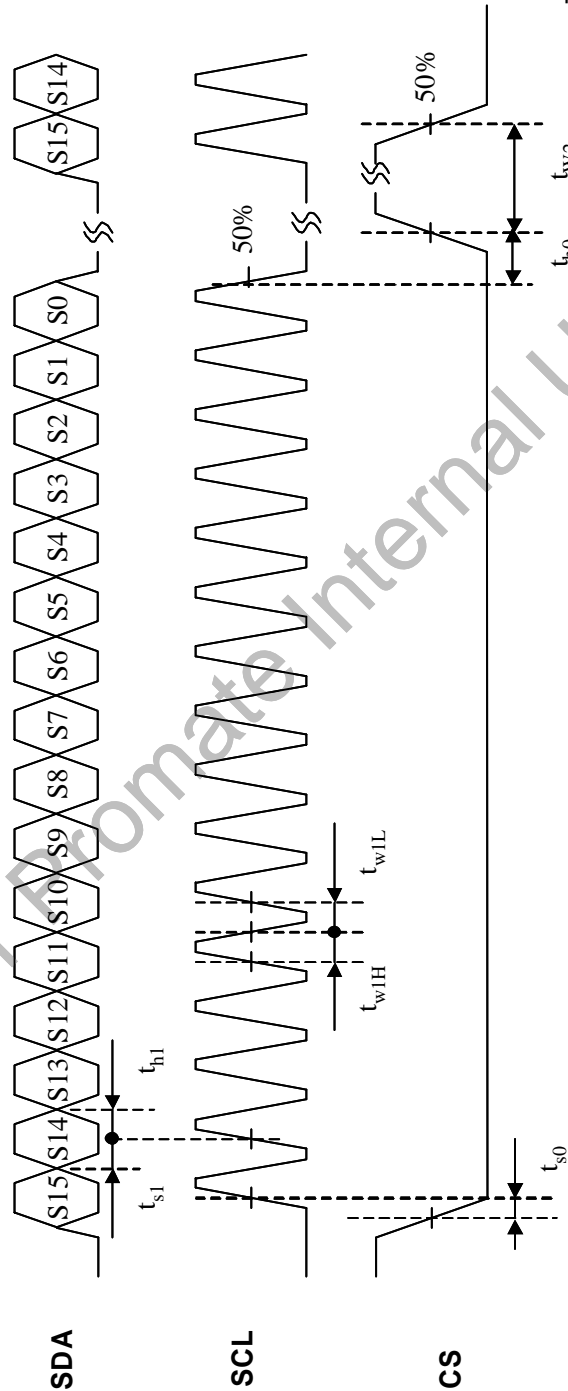

Fig. 5 Serial Control Timing
a. Timing condition (refer to Fig. 5)